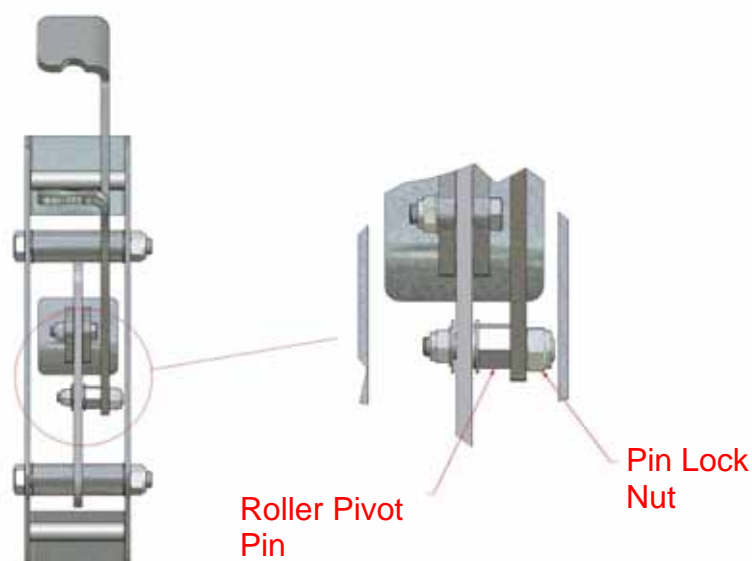

Figure 31, Catch Detent Adjustment
- If the Locking Catch detent should wear preventing the catch from remaining in the unlocked position, the Roller Pivot Pin can be adjusted to increase the detent force. Slacken off the Pin Lock Nut and rotate the Roller Pivot Pin 1/8 of a turn, Figure 31. Tighten the Pin lock Nut and test, repeat if necessary.